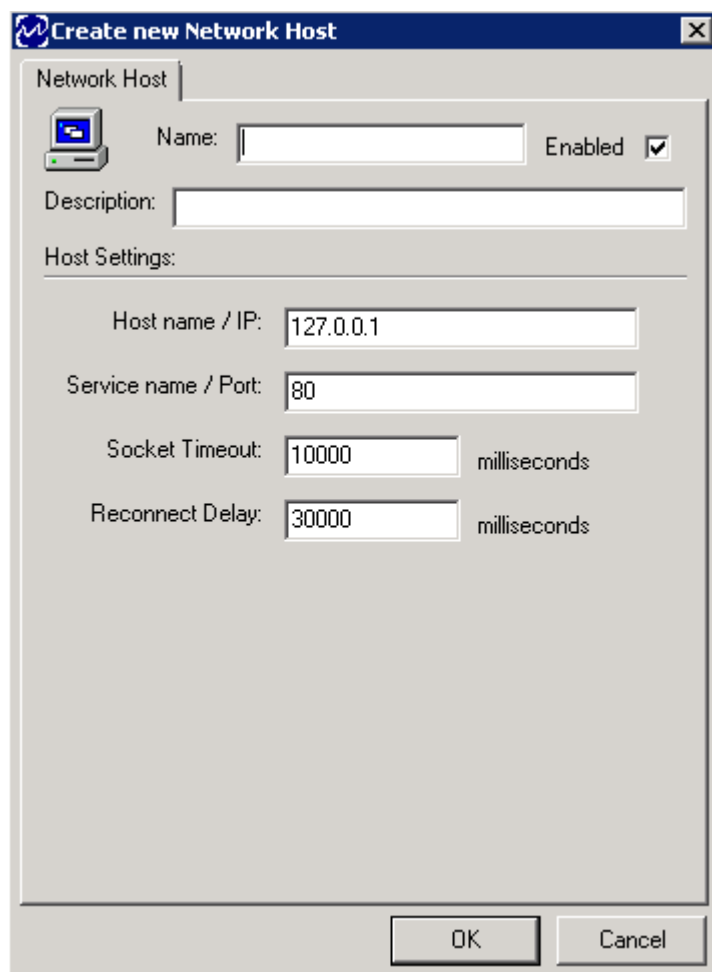

Figure 21 - Create New Network Host Window
The **Create New Network Host** window (Figure 21) displays the settings available for configuring a **Network Host**.
5. The **Create New** window appears (Figure 21).